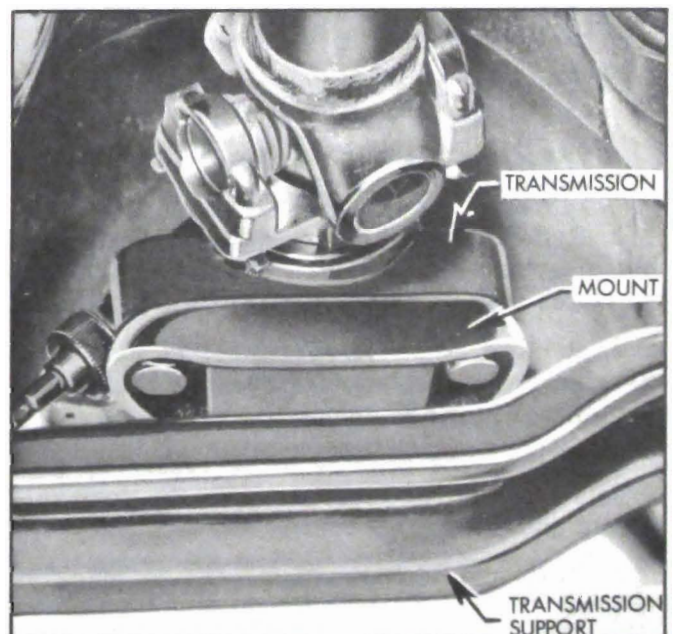

Figure 2-60—Rear (Transmission) Mount
1. Remove bolts and nuts holding transmission mount to support. Remove mount to transmission bolts. See Figure 2-60.